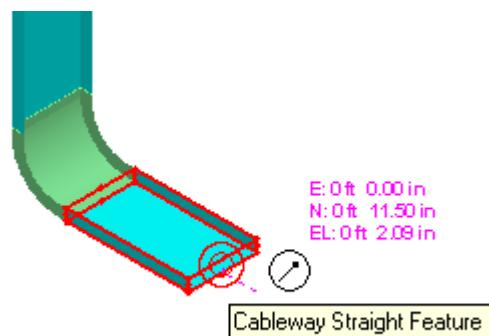

Figure 56: Reposition Target at the End of the Cable Tray
9. Click the **Reposition Target** option on the **PinPoint** ribbon and put the target at the free end of the tray as shown in Figure 56.